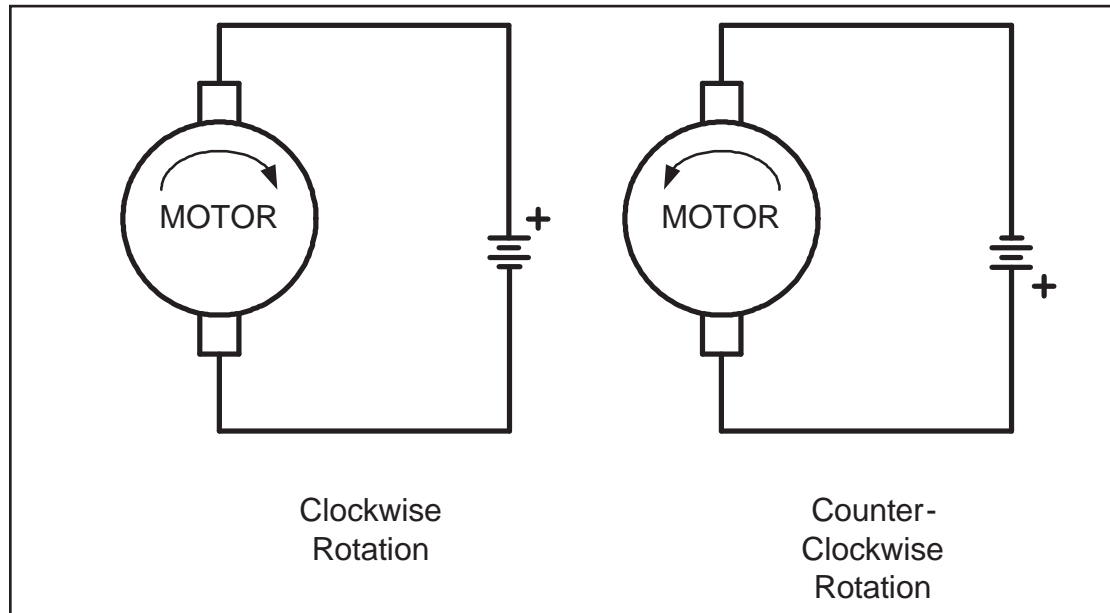

Figure 1. DC Motor Rotation (Permanent Magnet Field)
Figure 1 shows the DC motor rotation for clockwise (CW) and counter-clockwise (CCW) rotations. See Table 1 for selected DC motors.